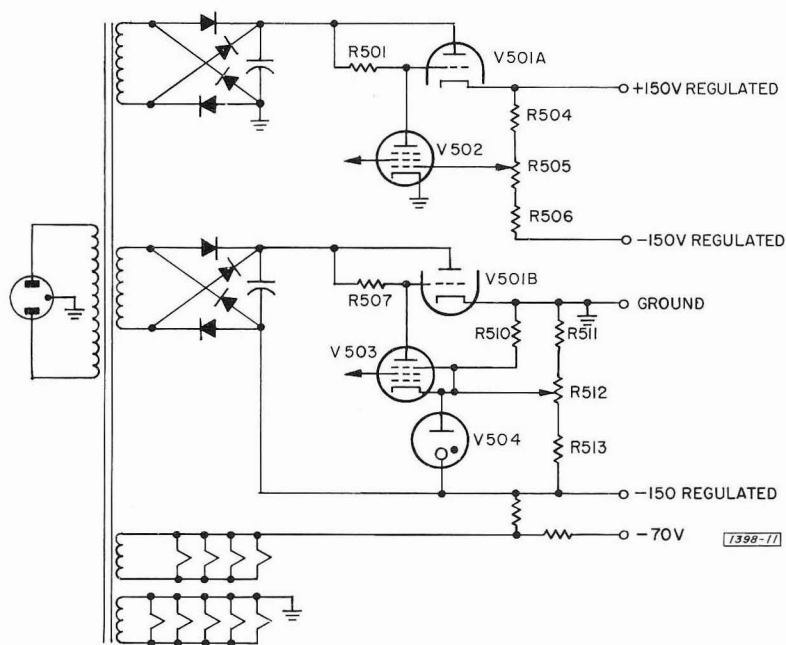

Figure 4-6. Simplified schematic diagram of the power-supply circuit.
4.5 POWER SUPPLY. (Figure 4-6).